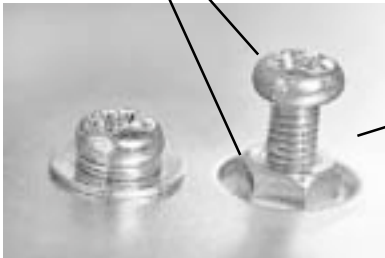

Fig. 5-12
5.	To adjust the pressure between the rollers, loosen the two fixing nuts with a 5.5mm wrench and adjust the screws. Fig. 5-12